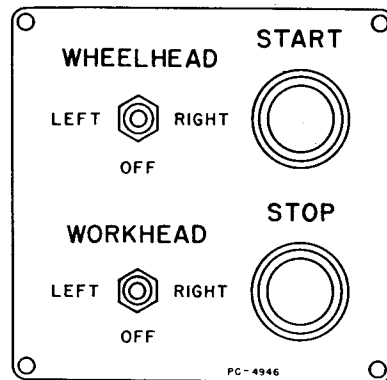
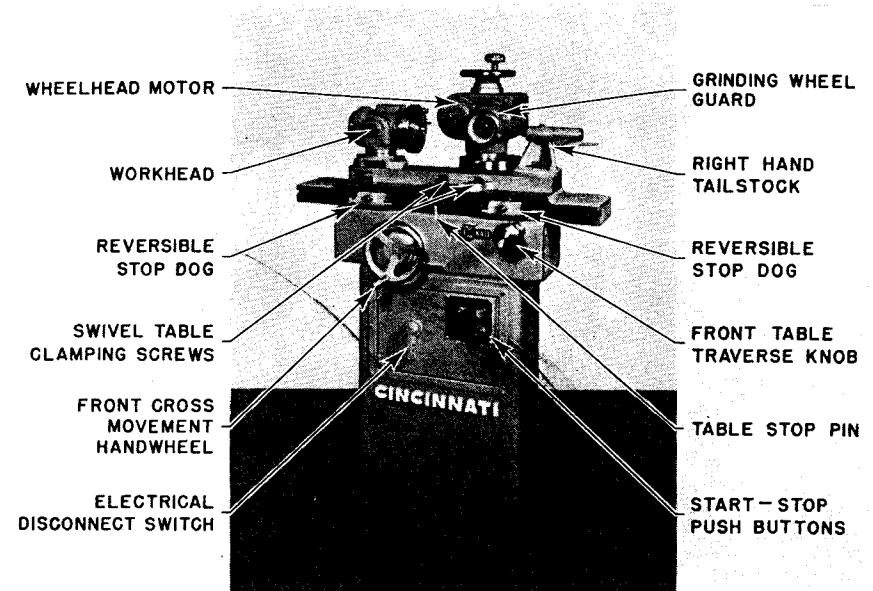

Figure 12A
Figure 13A
**Electrical Control Panel.** The electrical controls, Figure 12A, are conveniently located on the right-front of the machine base. The built-in push button station, Figure 13A, includes the Master "START-STOP" buttons and toggle switch labeled "WHEELHEAD" for selecting the direction of rotation of the grinding wheel spindle. The switch has three operating positions:
A plug-in receptacle is provided on the left-hand side of the machine base for connecting or disconnecting the workhead motor on those machines equipped with either the Cylindrical Grinding Attachment or the Small End Mill Grinding Attachment when it is supplied with a motor drive. The attachments are controlled by a toggle switch marked "WORKHEAD" at the lower left of the push button station (Figure 12A).